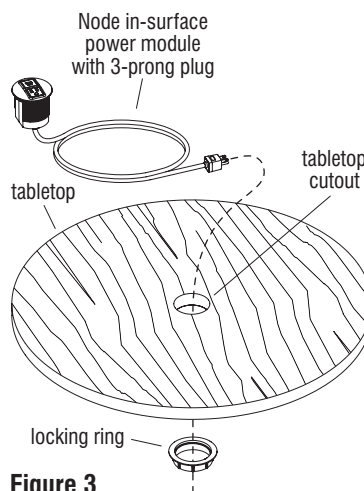

Figure 3
5. Orient the Node in-surface power module as shown and route the plug end down through the tabletop cutout, then press the module into the cutout straight, in the orientation desired (Figure 3 & Detail A).
6. At the underside of the tabletop, take note of the tabletop orientation hole and align the Node in-surface power module straight to it, either at a round side, the flat face, or the bottom side where the cord exits the module. Keeping the module straight to the orientation hole, position the locking ring as illustrated with cord through it, then move the ring up the cord and twist the locking ring onto the module and snug to the tabletop (Figure 3 & Detail B).